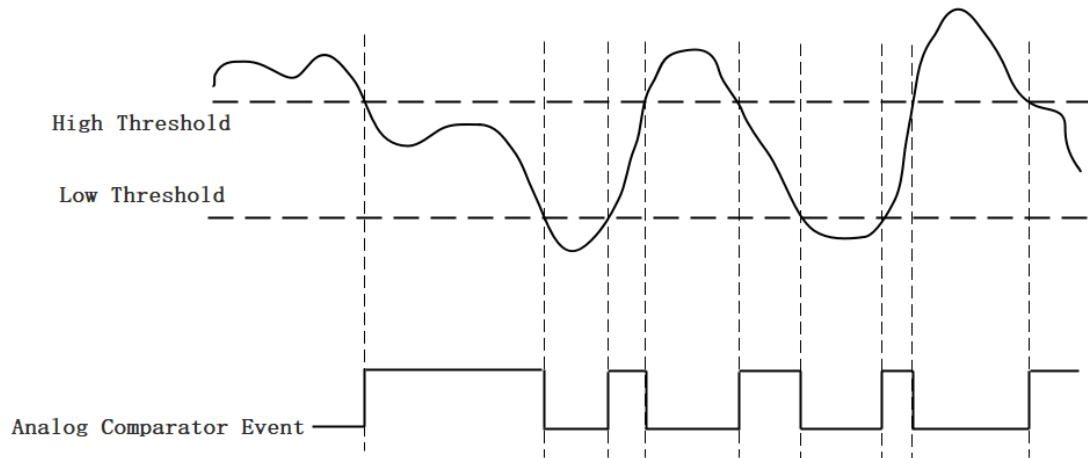

Figure 21 Entering Window Trigger
*Entering Window Trigger:* The window comparator output is high when the signal enters the window defined by the *Low Threshold* and *High Threshold*. The output will change to low when the signal leaves the window as shown in Figure 21.